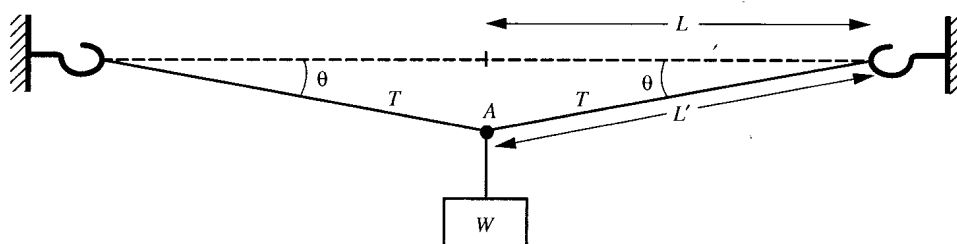

Fig. 11-9
**Problem 11.19.** A steel wire of length 1.0 m and cross-sectional area  $1.0 \text{ mm}^2$  is tied horizontally between two rigid hooks. A heavy weight  $W$  is suspended from the middle of the wire, causing it to sag as shown in Fig. 11-9. If  $\theta = 10^\circ$ , find the weight  $W$ .